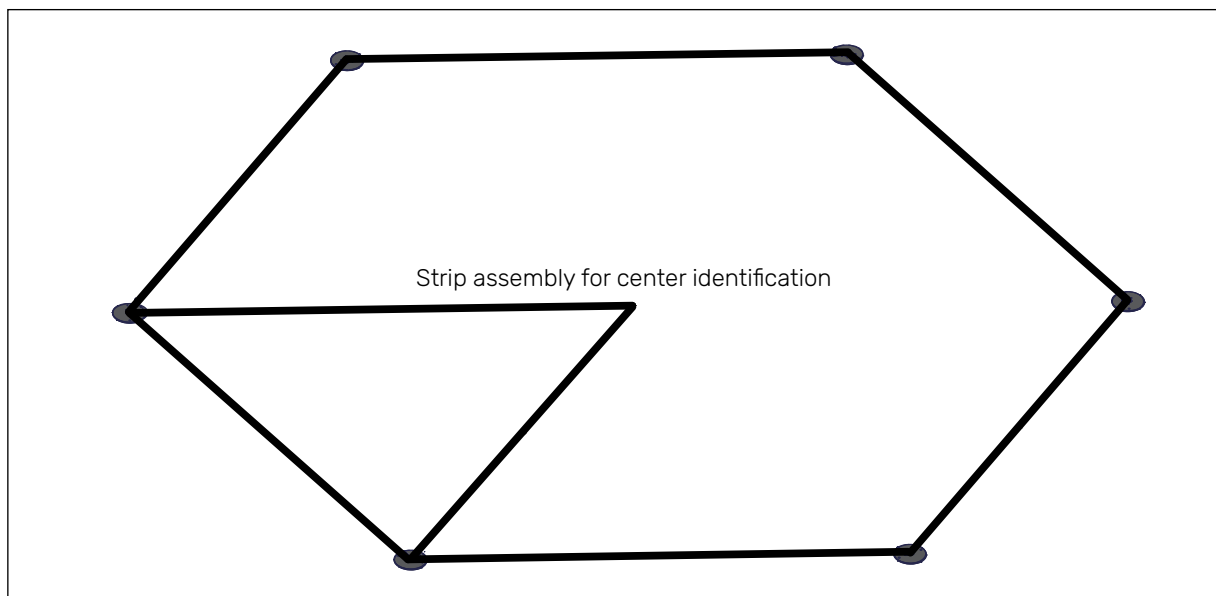

Fig. 13. The finished ground layer.
3. Slide the strip assembly for center location over two of the feet as shown in Fig. 13.